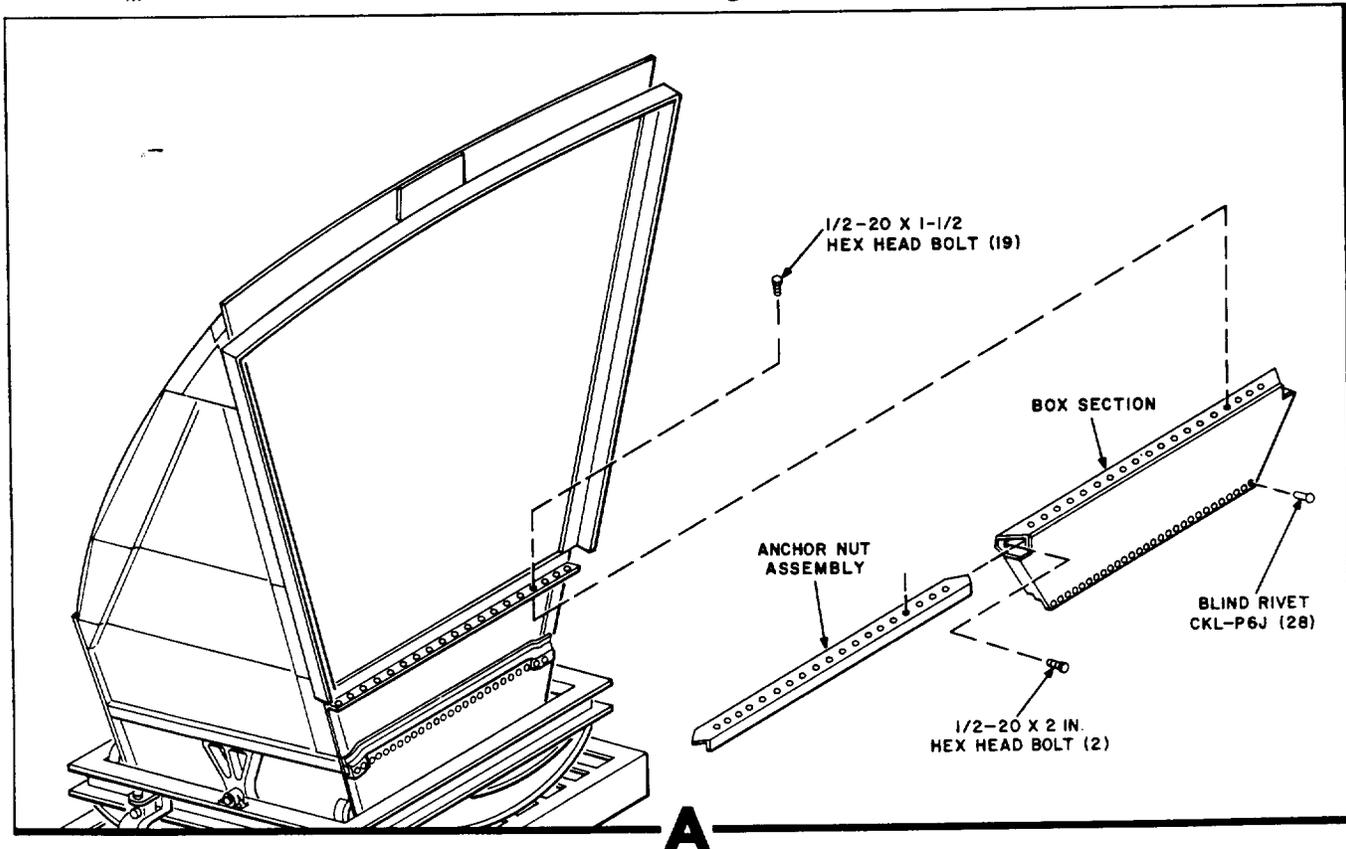

Fig. 13 — Box Section Assembly
5.45 Position the box section assembly (Fig. 13) on the antenna with its rear and upper surfaces butted against the front surface of the antenna and the bottom of the lower window clamping bar respectively. Place a 1/2—20 x 2 bolt through each end of the box section, securing it in place. These bolts replace the 1/2—20 x 1-1/2 bolts removed in paragraph 5.43.